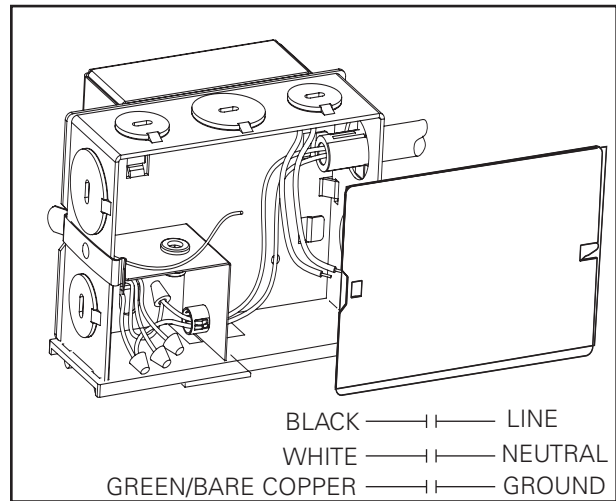

Figure 13.
- Remove junction box cover (Figure 13.).